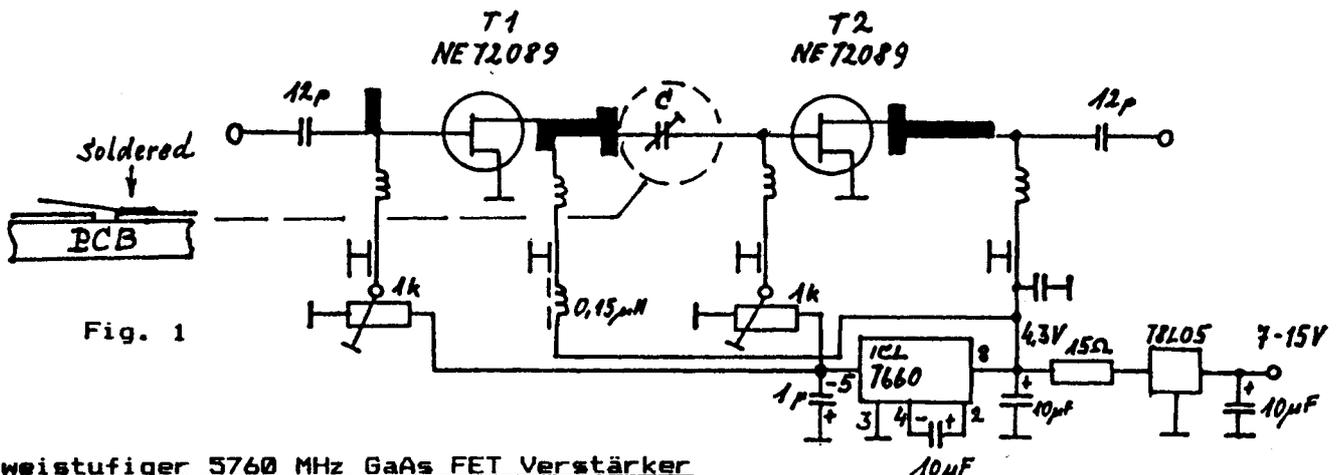

Fig. 1
E. This amplifier is usable as preamp. as well as smallpower amplifier. Maximum rf output on 5760 MHz is abt. 60 mW at 24 dB gain. Best noise figure is adjustable with the open stub in the input circuit (min noise figure abt. 1.5 dB). If the amplifier is adjusted for highest gain, the noise figure increases to about 4 dB. The gates are driven by a voltage converter IC ICL7660 (Intersil). Normally gate voltage should stay before the supply voltage reaches the drain of transistor. In this case it isn't necessary because the voltage converter operates already with very low supply voltage and the negative output voltage arrives the gate in time because the RC combination 15 Ohm and 10 uF. For lowest noise figure adjust the drain current to 10 mA of each transistor. When operating as small power amplifier increase the current to 20-30 mA. The variable coupling capacitor' is home brew, a silverplated copper band (3mm x 7mm x .5mm) is soldered on the printed transmission line gate T2. Take care under adjustment of this capacitor, because you may not touch the drain transmission line from T1 (4 V positive voltage!). The best protection under adjustment is to isolate the drainline T1 using a thin Teflon foil. Varying of this capacitor moves the center transmission frequency. As PCB material is used DUROID RT5870. Transistors NE72089 are obtainable from DL7QY (74,--DM each). Fig 1 shows the circuit diagram. Fig. 2 shows the PCB layout and Fig 3-5 the transmission curves and gain characteristics.
Die Platine besteht aus DUROID RT5870. Die Transistoren NE72089 können bei DL7QY bezogen werden (74,--DM/Stück). Bild 1 zeigt das Schaltbild. Bild 2 die